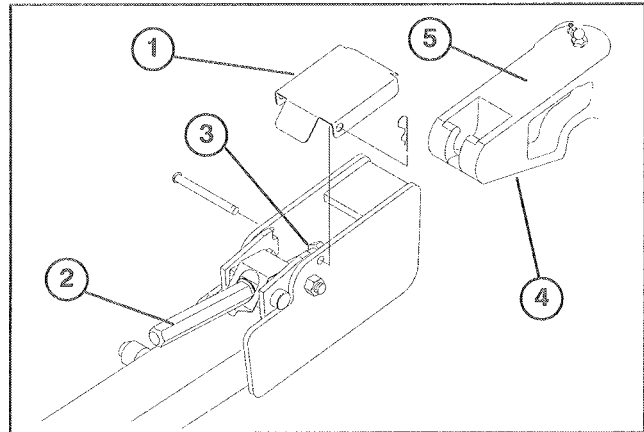

Figure 19
3. Adjust lift arms heights making sure that the machined surface on top of each traction unit lift arm is parallel to ground (Fig. 19). (Raise or lower lift arm casting by pushing up or down from behind the front tires or using wrench in front of tractor)